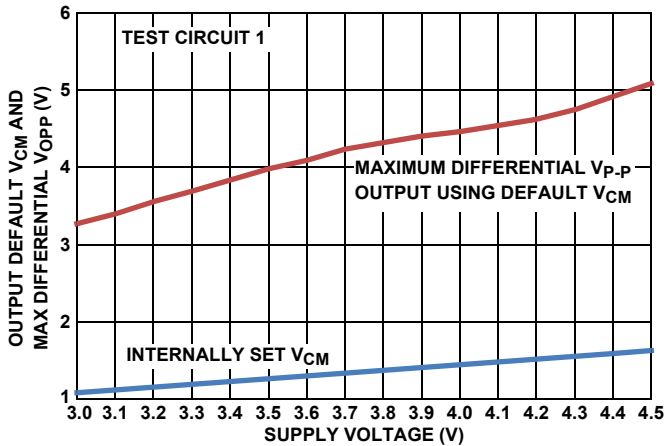
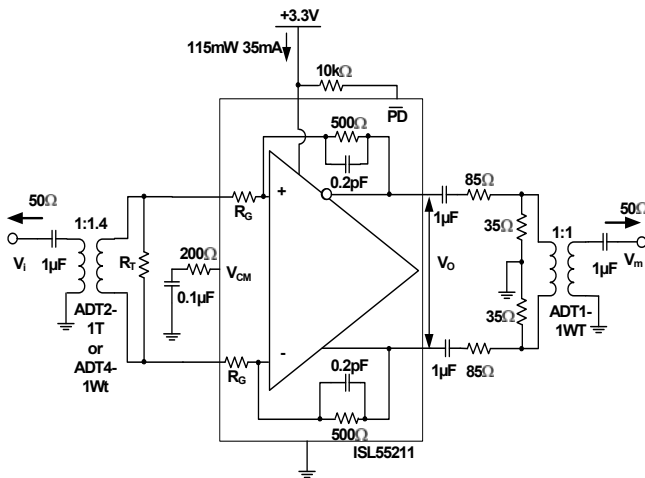
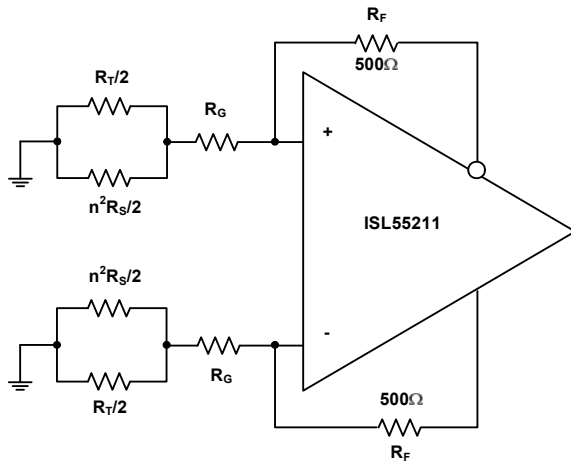
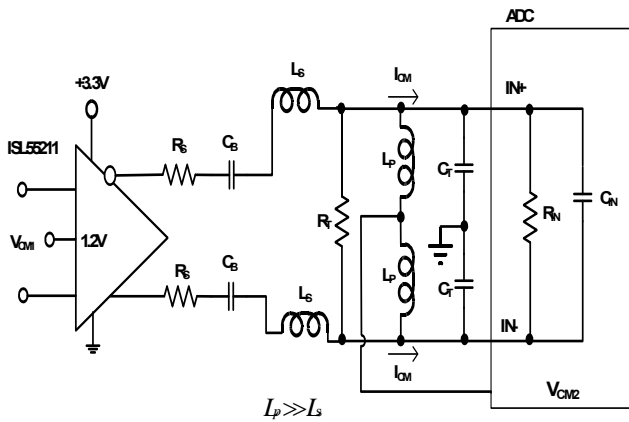

FIGURE 27. DEFAULT V_{CM} AND MAX V_{OPP} vs SUPPLY VOLTAGE
FIGURE 29. TEST CIRCUIT 1
FIGURE 35. NOISE GAIN MODEL FOR THE TRANSFORMER COUPLED INPUT CIRCUIT OF FIGURE 29
FIGURE 37. AC-COUPLED, HIGHER FREQUENCY RLC INTERSTAGE FILTER DESIGN
Test Circuit 1 of Figure 29 forms a starting point for many of the characterization curves for the ISL55211. Since most lab sources and measurement devices are single-ended, this circuit converts to differential at the input through a wideband transformer and would also be a typical application circuit coming from a single-ended source. Assuming the source is a 50 Ω impedance, the internal R_G resistors and external R_T are set to provide both the input termination and the gain. Since the inverting summing nodes act as virtual ground points for AC signal analysis, the total termination impedance across the input transformer secondary will be $(2 * R_G) || R_T$. Setting this equal to $n^2 * R_S$ will give a matched input impedance inside the bandwidth of the transformer (where "n" is the turns ratio). The amplifier gain is fixed by the selected input R_G element and the internal 500 Ω feedback resistors. While the ISL55211 is internally a Voltage Feedback Design (VFA) to give the lowest possible noise, internal compensation caps hold the bandwidth over gain setting approximately constant at 1.4GHz. For wider small signal bandwidth at lower gains, consider the ISL55210, which provides >2.2GHz at a gain of 12dB.
Working with a transformer coupled input as shown in Figure 29, or with two DC blocking caps from a differential source, means the output common mode voltage set by either the default internal V_{CM} setting, or a voltage applied to the V_{CM} control pin, will also appear as the input common mode voltage. This provides a very easy way to control the ISL55211 I/O common mode operating voltages for an AC-coupled signal path. The internal common mode loop holds the output pins to V_{CM} and, since there is no DC path for an I_{CM} current back towards the input in Figure 29, that V_{CM} setting will also appear as the input common mode voltage. It is useful, for this reason, to leave any input transformer secondary centertap unconnected. The internally set V_{CM} voltage is referenced from the negative supply pin. With a single 3.3V supply, it is very close to 1.2V but will change with total supply voltage across the device as shown in Figure 27.
Most of the characterization curves starting with Figure 29 then get different gains by changing the connections to the two pairs of input R_G connections, as shown on the pin configuration drawing on page 2. Two input turns ratios are intended for Test Circuit 1; either a 1:1.4 turns ratio (ohms ratio of 2) or a 1:2 turns ratio (ohm ratio of 4). The specific transformers shown in Figure 29 are representative of broadband RF transformers but alternate devices and manufacturers of these turns ratio devices are certainly applicable. The output side of this test circuit presents a differential 200Ω load while converting the differential to single-ended through a resistive attenuator and a 1:1 transformer. This inserts approximately a 17dB insertion loss that is removed to report the characteristic curves. For load tests below the 200Ω shown in Figure 29, a simple added shunt resistor is placed across the output pins. For loads $> 200\Omega$, the series and shunt load R's are adjusted to show that total load (including the 50Ω measurement load reflected through the 1:1 output measurement port transformer) and provide an apparent 50Ω differential source to that transformer. This output side transformer is for measurement purposes only and is not necessary for final applications circuits. There are output interface designs that do benefit from a transformer as part of the signal path as shown in Figure 1. In that case, the 1:1.4 output side transformer becomes part of a filter design and recovers the filter insertion loss from the amplifier output pins to the ADC inputs.
The characterization circuit of Figure 29 shows one possible input stage interface that offers several advantages. Where AC coupling is adequate, the circuit of Figure 29 simplifies the input common mode voltage control. If the source coming into this stage is single-ended, the input transformer provides a zero power conversion to differential. The two gain resistors (R_G in Figure 29) provide both a portion of the input termination impedance and the gain element for the amplifier. For 50Ω systems, these R_G resistors are too high with the turns ratios shown in Figure 29 to provide the full match and an external R_T resistor is required. This R_T element goes away at the highest gain setting using a 1:2 input turns ratio transformer.
This input interface also simplifies the input common mode control. The V_{CM} pin controls the output common mode voltage. In most DC-coupled FDA applications, the input common mode voltage is determined by both this output common mode and the source signal. In a configuration like Figure 29, there is no path for a common mode current to flow from output to input, so the input common mode voltage equals the output. A similar effect could be achieved with just two blocking caps on the two R_G resistors. A DC-coupled, single to differential, configuration will also have a common mode input that is moving with the input signal. Converting to just a differential signal at the amplifier, as in Figure 29, removes any input signal related artifacts from the input common mode making the ISL55211 behave as a differential only VFA amplifier. There is only a very small differential error signal at the inputs set by the loop gain, as in a
of 1.3V for instance, then $1.3V + 0.9V + 1.5V = 3.7V$ will give an unclipped 3.6V_{P,P} output capability. The $V_{P,P}$ reported in Figure 27 is an asymmetrically clipped maximum swing. Going 10% above this 3.7V target to 4.1V will be within the recommended operating range and give some tolerancing headroom that would also suggest the V_{CM} voltage be moved up to approximately 1.5V, which coincides with the default output V_{CM} from Figure 27. Operating at +4.1V single supply in a Figure 29 type configuration will give the maximum linear differential output swing of 3.6V_{P,P}.
The differential inputs internal to the ISL55211 also have operating range limits relative to the supply voltages. Operating in an AC-coupled circuit like Figure 29 will produce an input common mode voltage equal to the outputs. The inputs can operate with full linearity with this V_{CM} voltage down to 1.1V above the $-V_S$ supply. On the default 1.2V output V_{CM} on +3.3V supplies this gives a 100mV guardband on the input V_{CM} voltages. Overriding the default V_{CM} by applying a control voltage to the V_{CM} pin should be done with care in going towards the negative supply due to this limit. On the + side, the maximum input V_{CM} above the $-V_S$ supply is 2V so there is more room to move the output V_{CM} up than down from the default value.
+85°C maximum operating ambient from Figure 27, we get $4.5V \times 45mA \times 120^\circ C/W = +24^\circ C$ rise above +85°C or approximately +109°C operating T_j maximum - still well below the specified Absolute Maximum operating junction temperature of +135°C.
Adding an input transformer can improve the input referred noise by adding a noiseless voltage gain. Starting from Test Circuit 1 of Figure 29, and assuming the source shows a matched broadband source R_S that will be matched by the input referred parallel combination of $2 * R_G || R_T$, a noise gain analysis circuit can be developed as shown in Figure 35.
Stepping through the 3 gain settings with two input transformers will allow the noise gain to be calculated for the circuit of Figure 35, which is all that is needed in Equation 1 to arrive at an output differential noise (since R_F is fixed at 500Ω). Doing this gives Table 4.
2. AC-coupled, higher frequency range interstage filter design. This design replaces the R_T resistors in Figure 35 with large valued inductors and implements the filter just using shunt resistors at the end of the RLC filter. In this case, the ADC V_{CM} can be tied to the centerpoint of the bias path inductors (very much like a Bias-T) to provide the common mode voltage and current to the ADC inputs. These bias inductors do limit the low frequency end of the operation where, with $1\mu\text{H}$ values, operation from 10MHz to 200MHz is supported using the approach of Figure 37.